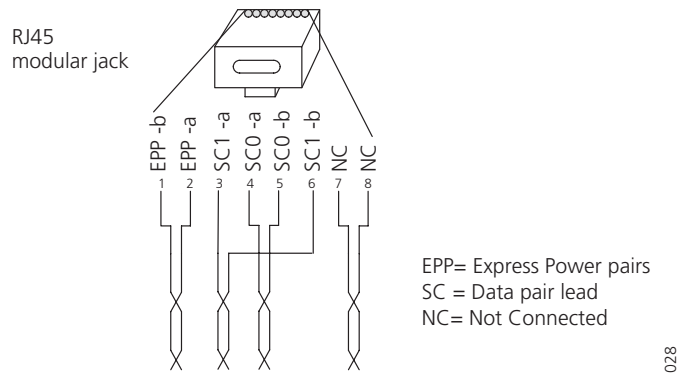

Figure 15. Connector pinning of the RFP cable.
- 2 Connect the cable to a RJ45 modular jack. For information on the pinning, see Figure 15.